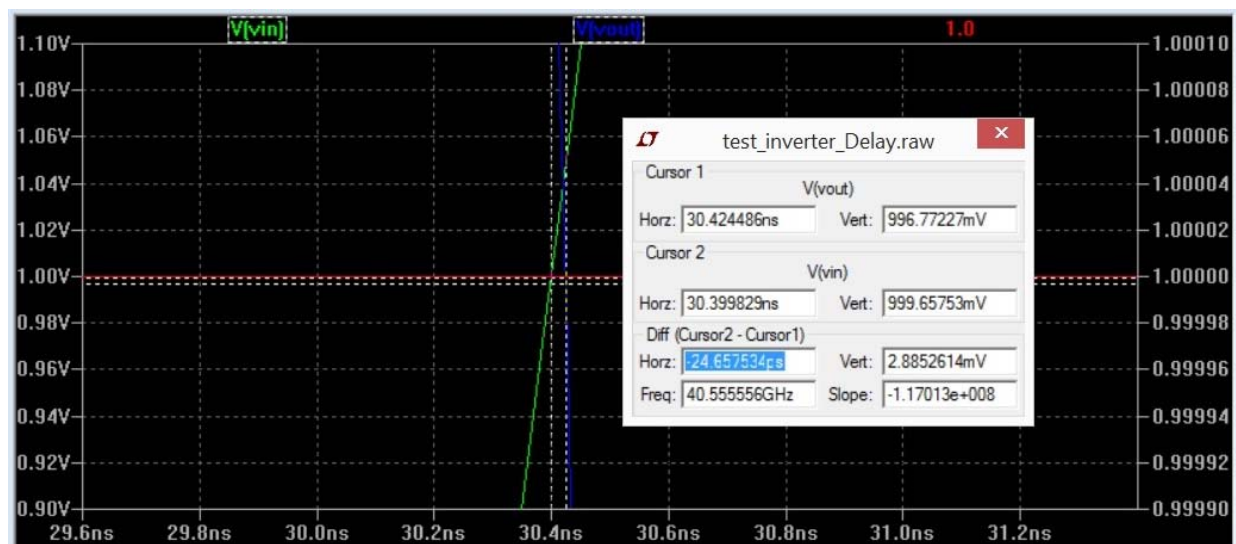

Figure 27. Find  $t_{pHL}$  from the graph
- F. Move the cursors and zoomed in further to find the  $t_{pHL}$ . It is equal to 24.657534ps as Figure 27 shows, which should equal to the absolute value of Diff (Cursor2 – Cursor1).